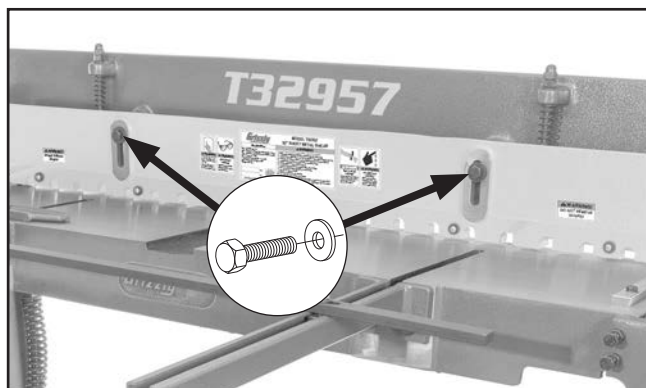

Figure 42. Location of blade guard hex bolts.
4. Loosen blade guard hex bolt on side of blade guard that needs adjustment (see **Figure 42**).